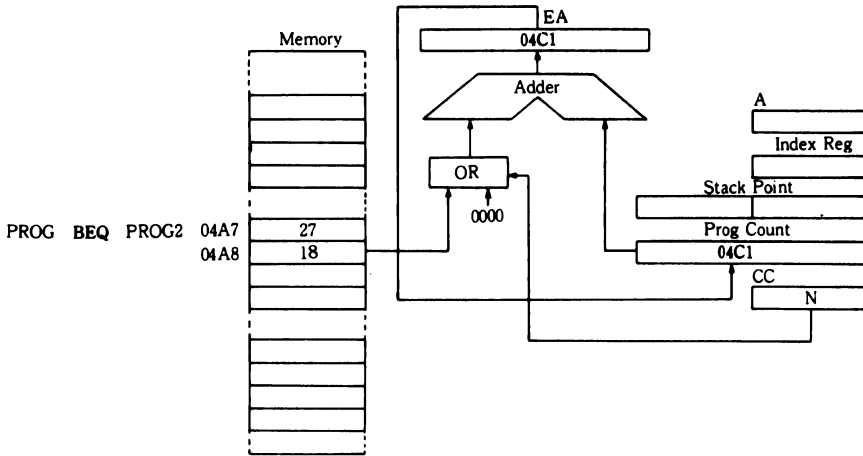

Figure 2-25 Relative Addressing Example
Refer to Figure 2-25. The relative addressing mode applies only to the branch instructions. In this mode the contents of the byte following the opcode is added to the program counter when the branch is taken. $EA = (PC) + 2 + Rel$. Rel is the contents of the location following the instruction opcode with bit 7 being the sign bit. If the branch is not taken, Rel=0. When a branch takes place, the program goes to somewhere within the range of +129 bytes to -127 of the present instruction. These instructions are two bytes long.